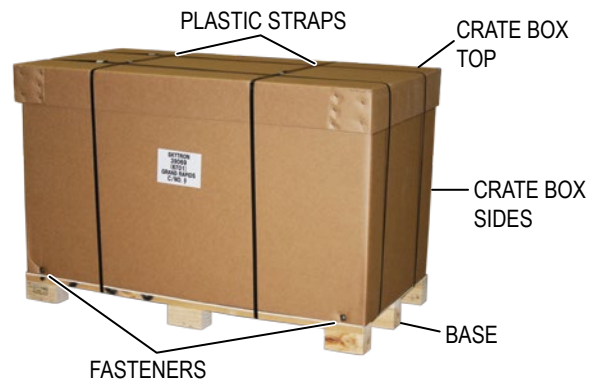

Figure 1. Shipping Crate
1. Cut and remove the plastic straps securing the shipping crate box to the shipping crate base (Figure 1).